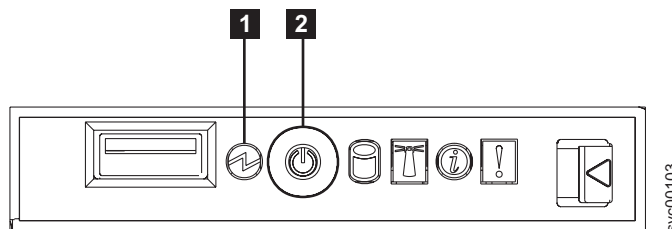

Figure 47. The SAN Volume Controller 2145-8F2 and SAN Volume Controller 2145-8F4 operator information panel
**Is the power light continuously illuminated?** See Figure 47.